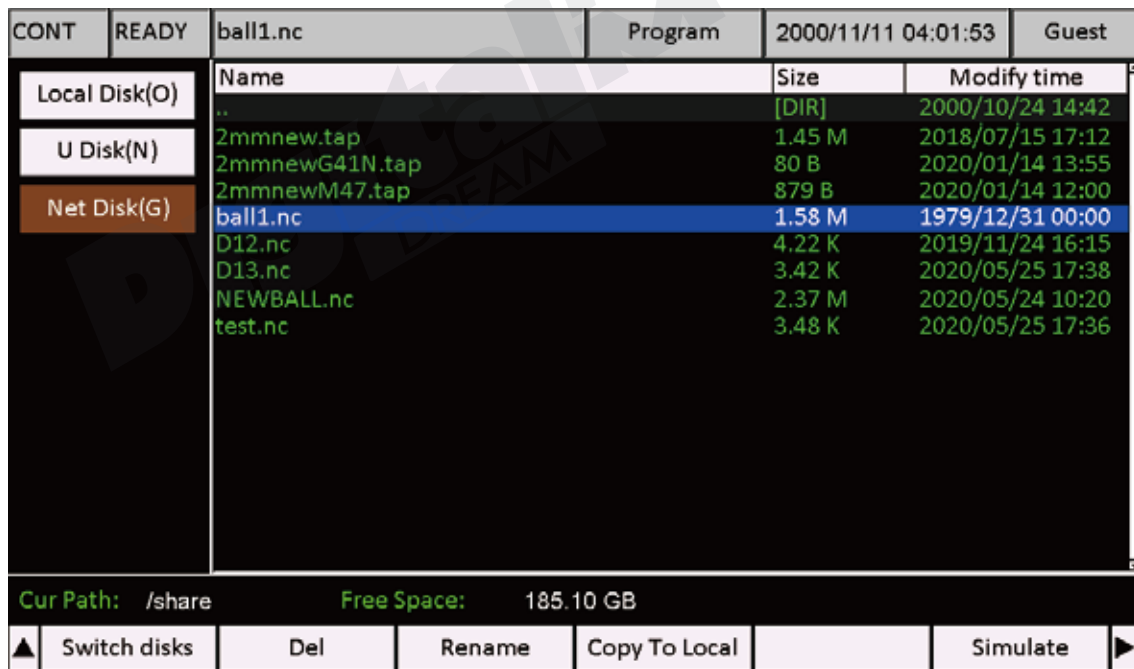

Figure 8-45 Net Disk shows the files from Computer
- 2) In the Page of Program, press the “Switch disks” button(F1), switch to “Net Disk”, and we can see the files as Figure 8-45;